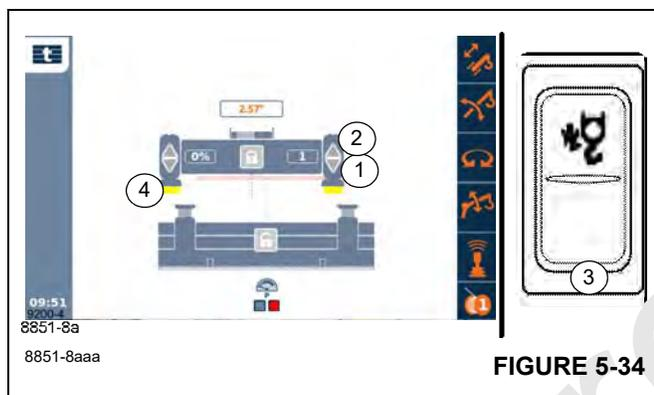

FIGURE 5-34
Assuming the symbol (4), (Figure 5-34) is yellow with the counterweight unrigged:
- Press the override button (3), (Figure 5-34).
- Fully extend the lifting cylinders – symbol (1), (Figure 5-34).
- Release the override button (3), (Figure 5-34).
- Fully retract the lifting cylinders – symbol (2), (Figure 5-34). Select symbol and hold.
The symbols (4), (Figure 5-34) become green.